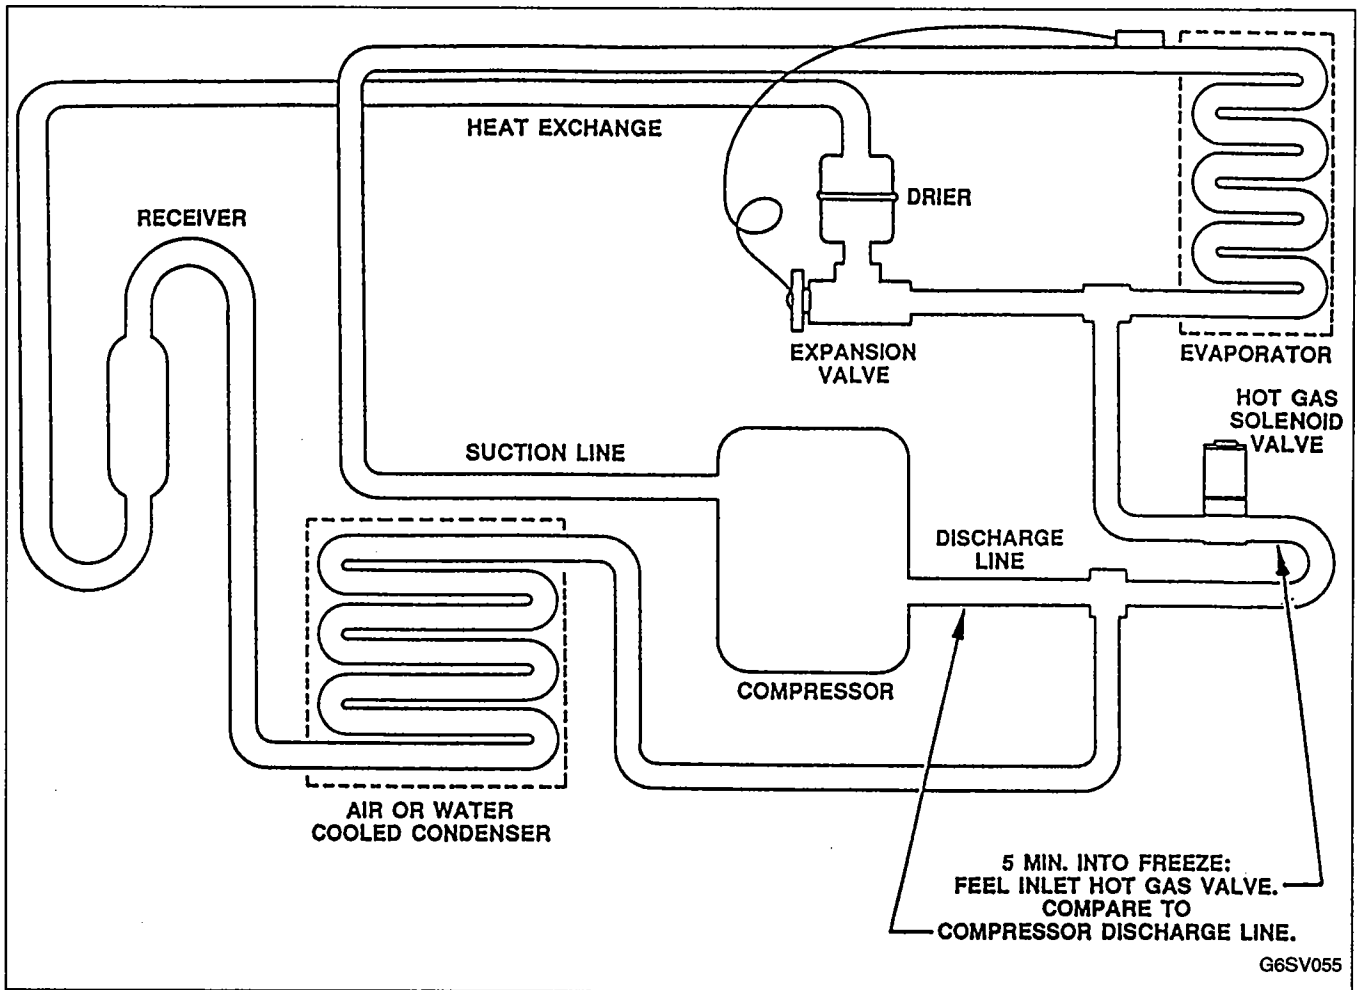

FIGURE 55. HOT GAS VALVE INLET FEEL CHECK
- 1) Feel **hot gas valve inlet**, Figure 55, page 59 after 5 minutes into freeze cycle.